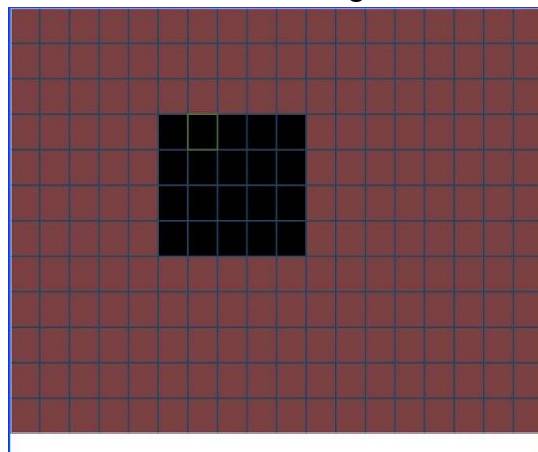

Figure 4-17
- Region: Click select button, the interface is shown as in Figure 4-17 Here you can set motion detection zone. There are 396(PAL)/330(NTSC) small zones. The green zone is current cursor position. Grey zone is the motion detection zone. Black zone is the disarmed zone. You can click Fn button to switch between the arm mode and disarm mode. In arm mode, you can click the direction buttons to move the green rectangle to set the motion detection zone. After you completed the setup, please click ENTER button to exit current setup. Do remember click save button to save current setup. If you click ESC button to exit the region setup interface system will not save your zone setup.
In Figure 4-17, you can left click mouse and then drag it to set a region for motion detection.